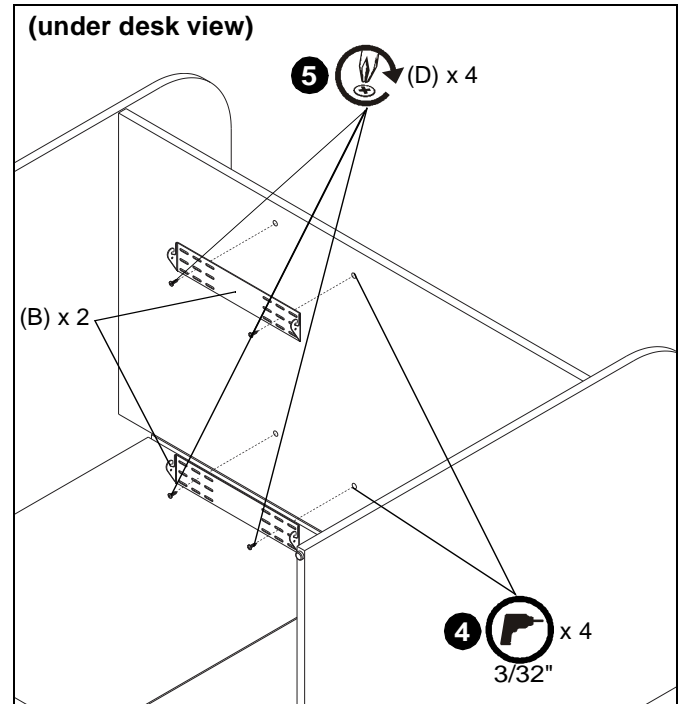

Figure 3
4. Drill four 3/32" pilot holes are marked locations under desk. (See Figure 3)
5. Use four #10 x 3/4" Phillips wood screws (D) to secure two desk brackets (B) to underside of desk. (See Figure 3)